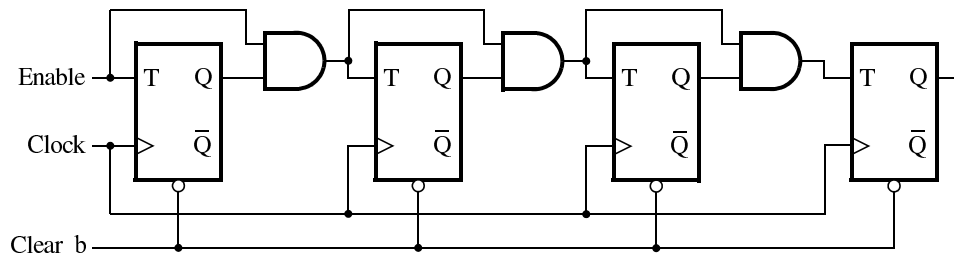

Figure 1: A 4-bit counter.
Consider the circuit in Figure 1. It is a 4-bit synchronous counter that uses four T-type flip-flops. The counter increments its value on each positive edge of the clock if the *Enable* signal is asserted. The counter is reset to 0 by setting the *Clear_b* signal low – it is an active-low asynchronous clear. You are to implement an 8-bit counter of this type.
1. Draw the schematic for an 8-bit counter using the same structure as shown in Figure 1.
6. Use the Quartus RTL Viewer to see how the Quartus software synthesized your circuit. What are the differences in comparison with Figure 1?